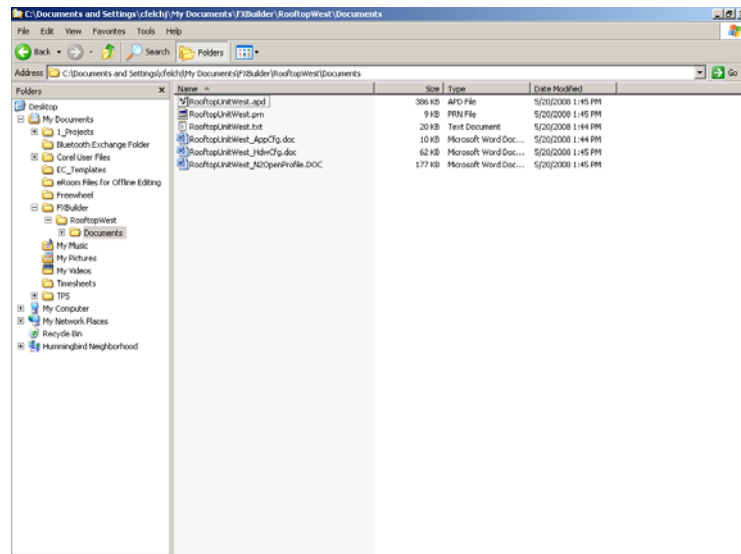

**Figure 53: Application Compile Completed! Dialog Box**
7. Click OK when the Application Compile completed! dialog box appears (Figure 53).